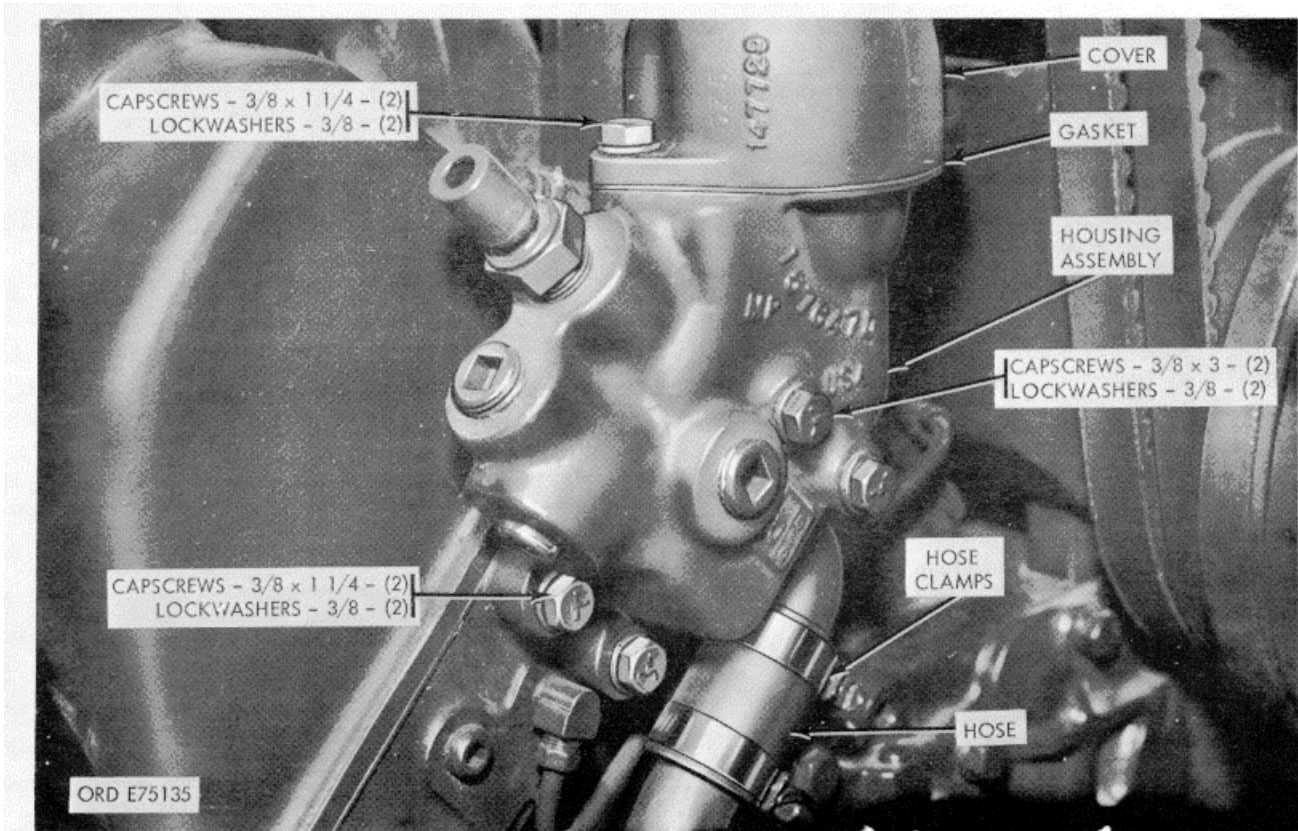
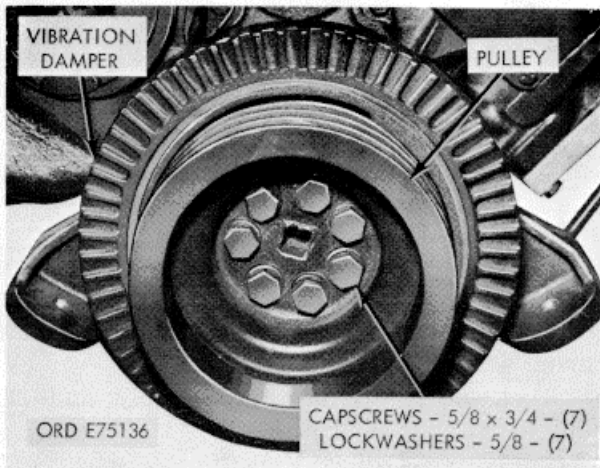
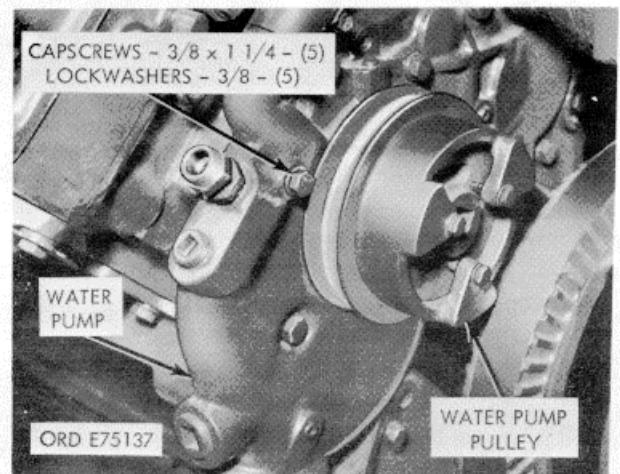
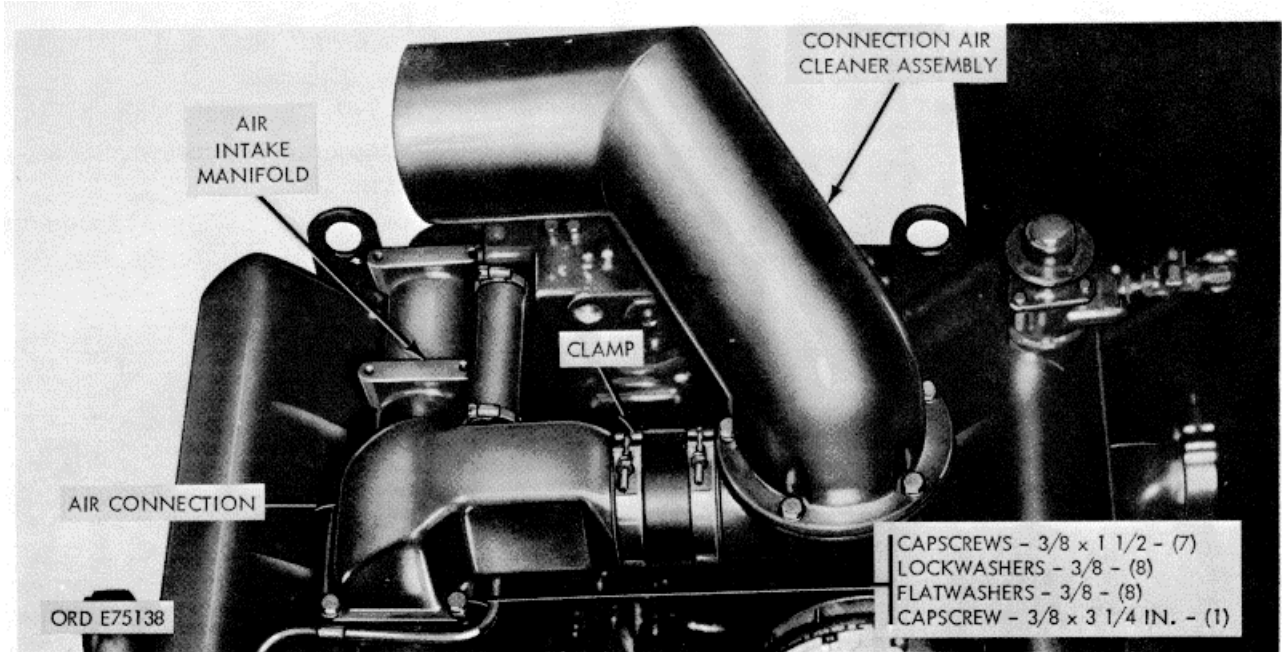

Figure 2-5. Thermostat assembly--removal/installation.
Figure 2-6. Drive pulleys and vibration damper--removal/installation.
Figure 2-7. Water pump assembly--removal/installation.
Figure 2-8. Air intake crossover and preheater assembly--removal/installation.
f. Thermostat Assembly (fig. 2-5).
- (1) Loosen clamp securing water pump hose to thermostat housing.
- (2) Remove four capscrews and lockwashers securing assembly to cylinder head.
- (3) Remove thermostat assembly and assembly to cylinder head gasket.
g. Fan Drive Pulley, Vibration Damper, and Water-Pump Drive Pulley (fig. 2-6).
- (1) Remove seven capscrews and lockwashers securing drive pulley and vibration damper to crankshaft.
- (2) Remove pulleys and vibration damper.
h. Water Pump Assembly (fig. 2-7).
- (1) Remove five capscrews and lockwashers securing water pump assembly to block.
- (2) Remove pump assembly by pulling straight forward so impeller clears block. Remove and discard gasket.
i. Air Intake and Preheater- Assembly (fig. 2-8).